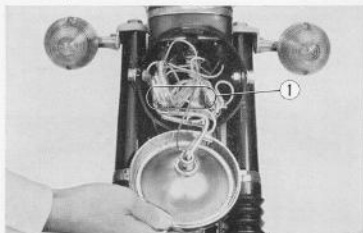

Fig. 4.5 Disconnecting electrical leads
4. Remove the horn, turn signal and dimmer switch lead ① by loosening the screws at the front of the headlight case, and disconnecting the connectors within the headlight case. (Fig. 4.5)